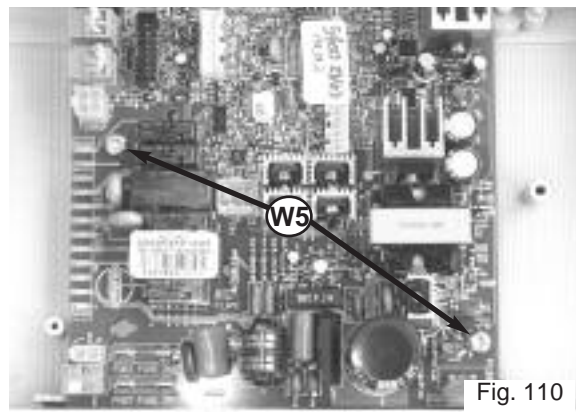

Fig. 110
- To remove the main PCB disconnect all electrical connections and remove the two screws **W5** (see Fig. 110);